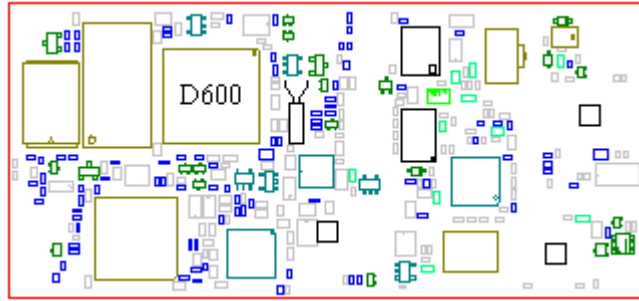

Fig. 2.3
- If the phone passes the test but isn't able to connect a call towards the "real" net, make sure the phone hasn't been **locked out of the system due to theft**. If it hasn't, replace D600 (class B, fig. 2.3).